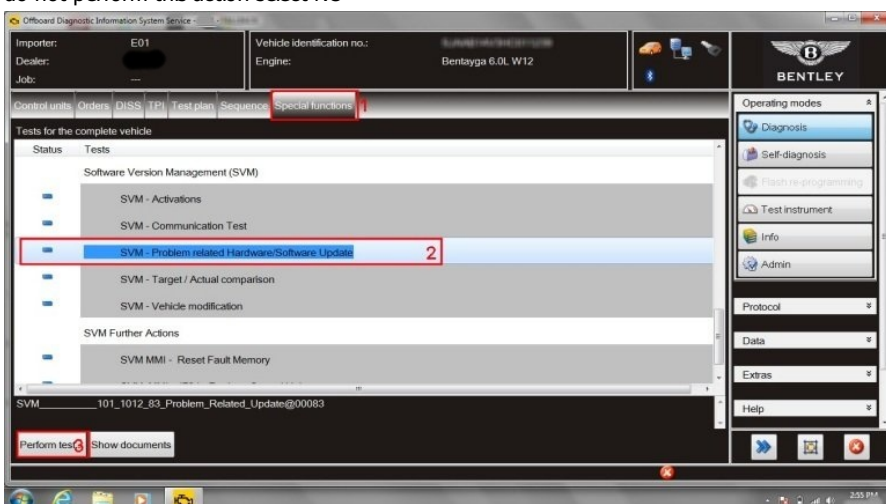

Figure 2
8. Select Special functions (1), Select SVM – Problem related Hardware/Software Update (2), Select Perform test (3) (see Figure 2)